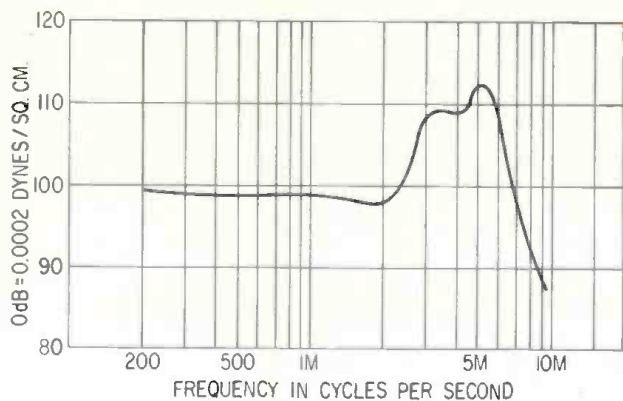

Figure 1. The response of the THD-39 earphone in an ASA Type 9A mechanical coupler.
**Measuring Methods.** What little has been available to contribute to headphone development has stemmed from audiometry equipment. An ASA standard coupler exists as of 1954 which gives a calibrated response from an arbitrary not-so-good headphone used for a standard, the THD-39. An average ear responds to the coupler/headphone result as in FIGURE 1.
The fact that an extended high end is not desirable with present headphone designs is a boon to the designer of conventional units, for the ear cavity adjacent to the diaphragm acts acoustically as a shunt capacitance, thus making uniform response at the ear difficult to attain. The THD-39 virtually cuts off at 8 kHz (FIGURE 1).